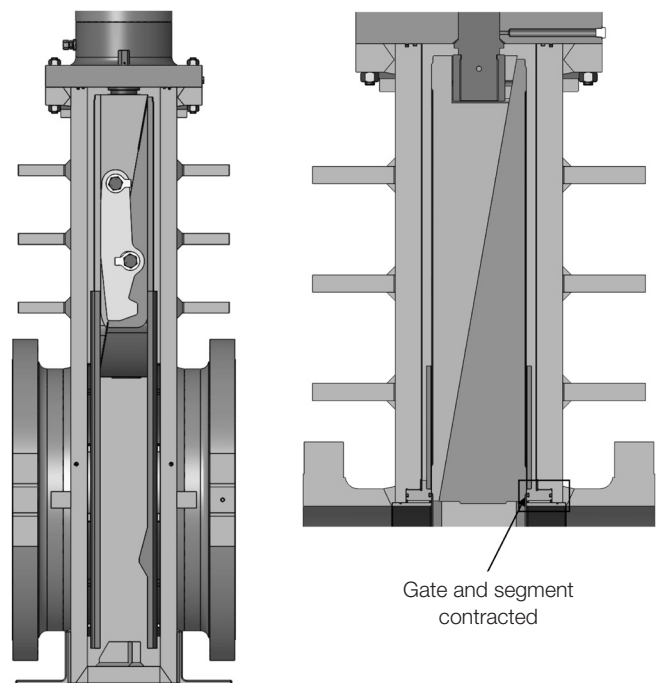

Figure 2b: CEGV sealing mechanism in fully open position
- In the open position **Figure 2b**, the gate and segment are contracted, allowing contact-free movement during opening and closing strokes, which extends the lifespan of the valve based on friction-free operation.